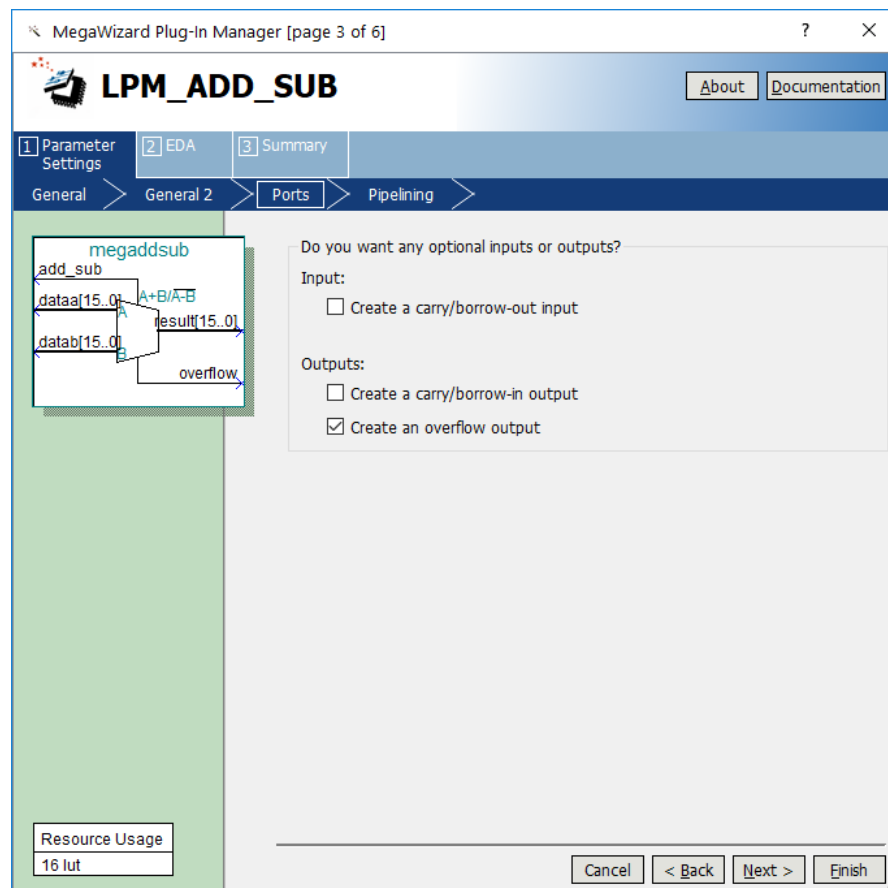

Figure 8. Specify the Overflow output.
6. The box in Figure 8 allows the designer to indicate optional inputs and outputs that may be specified. Since we need the overflow signal, make the Create an overflow output choice and press Next.